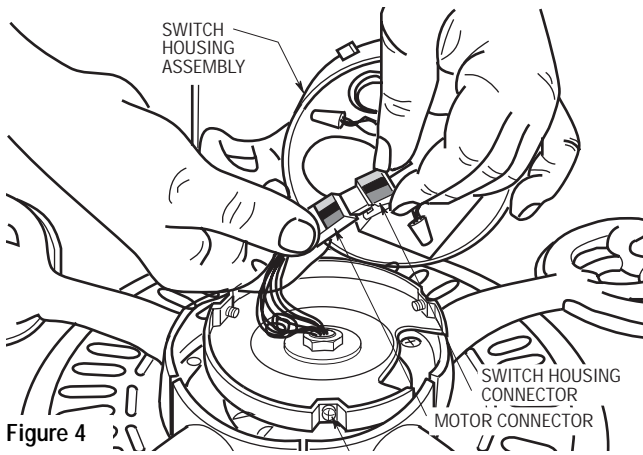
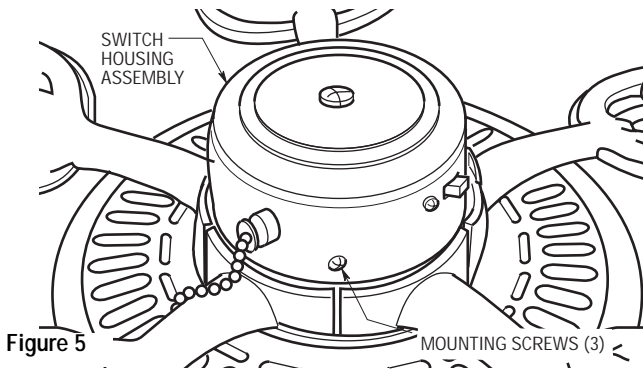

Figure 4
Figure 5
10. Engage the connector of the switch housing assembly with the motor connector (Figure 4). The two connectors are keyed and color-coded and must be mated correctly (color-to-color) before they can be engaged. Make sure the connector latch closes properly.
- 11. Remove the three switch housing mounting screws (Figure 4) from the switch housing plate. Position the switch housing assembly on the switch housing plate and align the holes in the switch housing assembly with the holes in the plate. Secure the switch housing assembly by installing the three mounting screws (Figure 5).